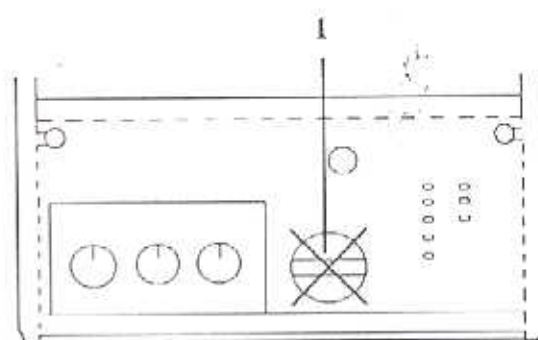

Fig. 1
- (B) Wiring to external Time Switches, Room Thermostats and Frost Thermostats
- (C) Wiring to 'Y' plan or 'S' plan installations
Remove the clock aperture blanking plate (1) fig.1 by squeezing the two lugs on the rear of the plate together and push the plate out.